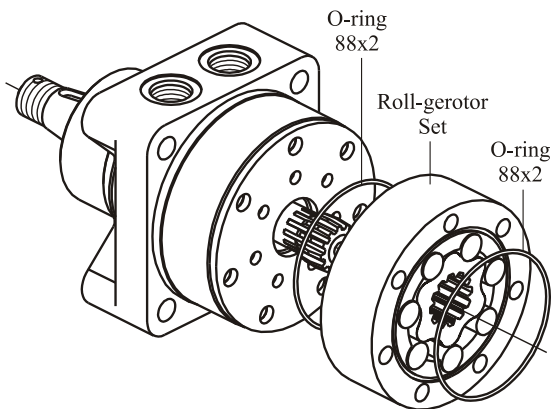

Fig.2
Remove O-rings from geroller set grooves (see Figure 2).
15. Lubricate O-rings 88x2 (2 psc.) and place them in seal grooves of both stator sides. (see Fig.2).